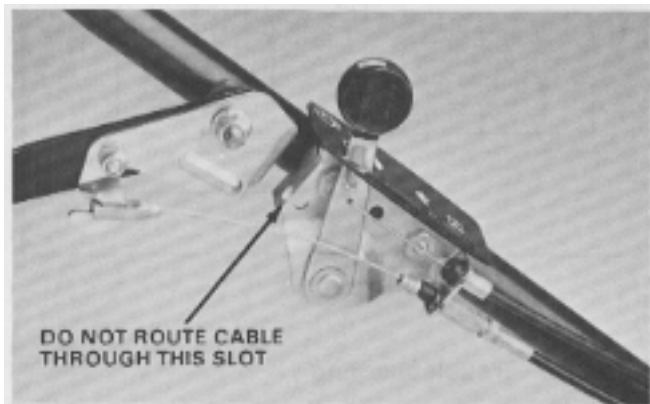

Figure 61
1. Remove the two hex head capscrews securing the throttle control to the handle and remove the throttle control. Remove the traction cable clevis from the traction control bar. See Figure 61.
7. Slip the traction cable onto the hook on the left side of the control bar then secure the throttle control in the second and third hole from the top of the handle with hex head capscrews. See Figure 61.